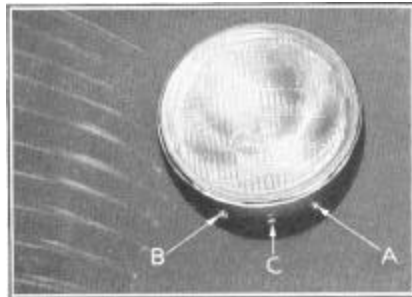

Figure 60
Two adjusting screws have been provided at the bottom of the headlamp, Figure 60, to obtain proper lighting effect.
Turn both adjusting screws (A and B), Figure 60, with a narrow screwdriver the same number of turns clockwise to raise the beam, counter-clockwise to lower the beam.
To move the beam toward right: Turn the right adjusting screw (B), Figure 60, counter-clockwise until beam has moved approximately half the desired distance to the right. Turn left adjusting screw (A) clockwise until beam has reached the proper position on the horizontal axis. It may then be necessary to readjust the beam on the vertical axis by turning both adjusting screws the same amount clockwise to raise the beam, counter-clockwise to lower the beam.
To replace headlamp lens and bulb, loosen screw (C), Figure 60, at bottom of lamp body. Push bottom of lens backward and downward until the top of the lens is clear of the top of the lamp body and lift out. Remove bulb by turning counter-clockwise. Replace bulb, turning same in clockwise rotation to lock in reflector. Replace lens.